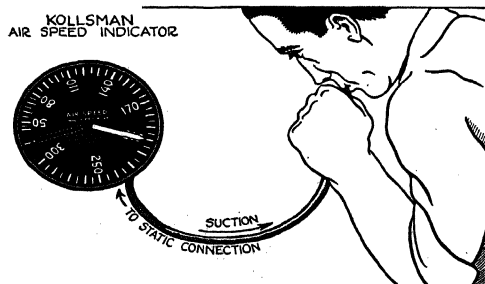

FIG. 39.—Testing tightness of case.
*To See If Instrument Case Is Airtight.*—Put one of the rubber tubes on the static connection of the air speed indicator. Put the other end of this tube in the mouth and softly take in the breath, till the hand comes to 200 m.p.h. (see Fig. 39). If the range of the instrument is less than 200 m.p.h., take in the breath only till the hand comes to full scale. Then, shutting off the tube, keep watching the hand of the air speed indicator. If it goes down scale, see how quickly it is moving. If it is moving quicker than 5 m.p.h. in 1 min., the case is not tight enough.